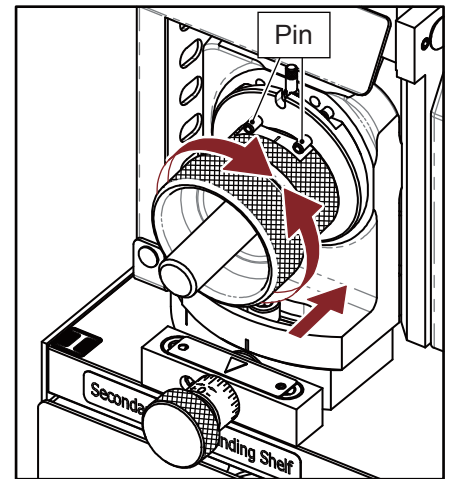

Fig. 8-1
1. 2 Flute Secondary Relief Grinding (I) (Fig. 8-1)
- ① Insert the Chuck set into Shelf (I), align Slot No.1 of the clamping nut with the two pins on the shelf, gently push the Chuck set and turn it clockwise and counterclockwise until the grinding noise stops.
- ② Take the Chuck set out, turn it to grind the Slot No.2 in the same way.